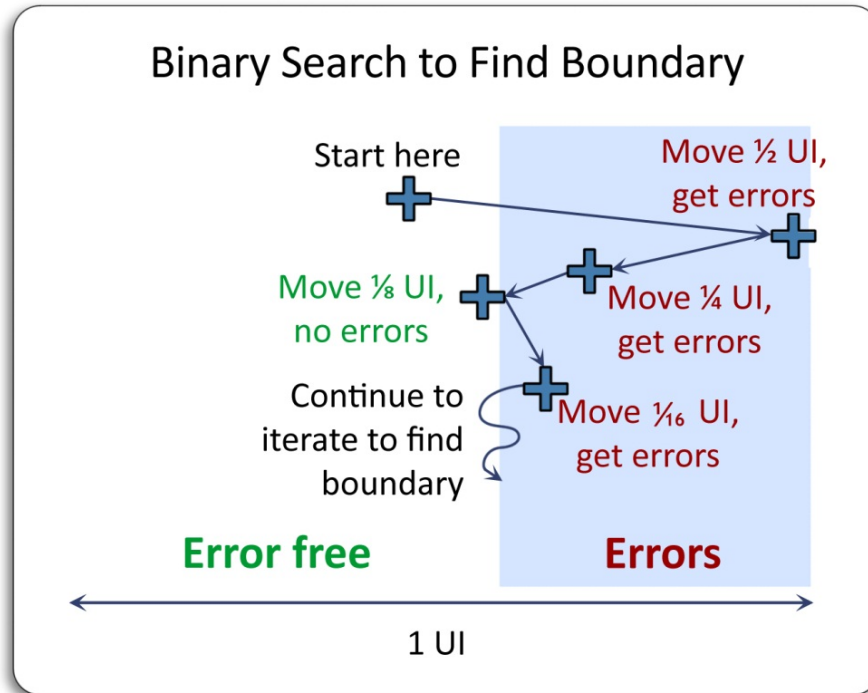

FIGURE 36. LOCATE OPTIMUM DELAY
3. Once error free operation is obtained, locate the boundary between error free and errored operation by decreasing the Generator Delay and using a binary search method as shown in Figure 36. Record the Generator Delay.